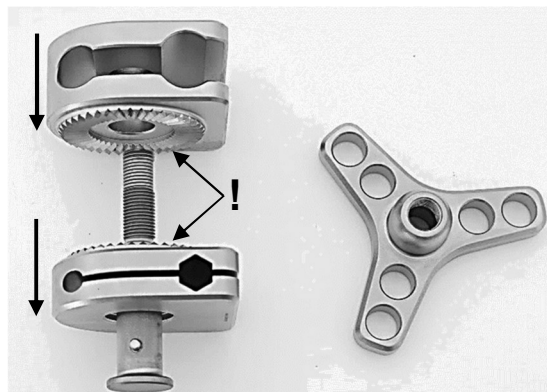

Fig. 10
As illustrated in Figure 10, first insert the lower clamping piece (3) and then the upper clamping sleeve (2) over the threaded rod (4). Please observe the following notes!